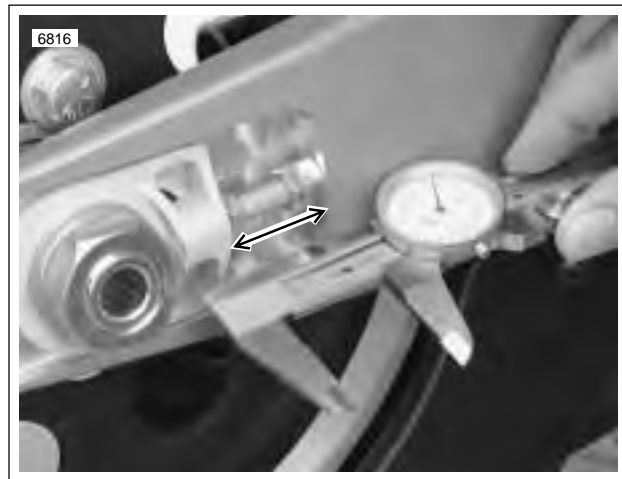

Figure 2-66. Checking Rear Wheel Alignment, Right Side Shown
- a. See Figure 2-66. Check rear axle alignment.